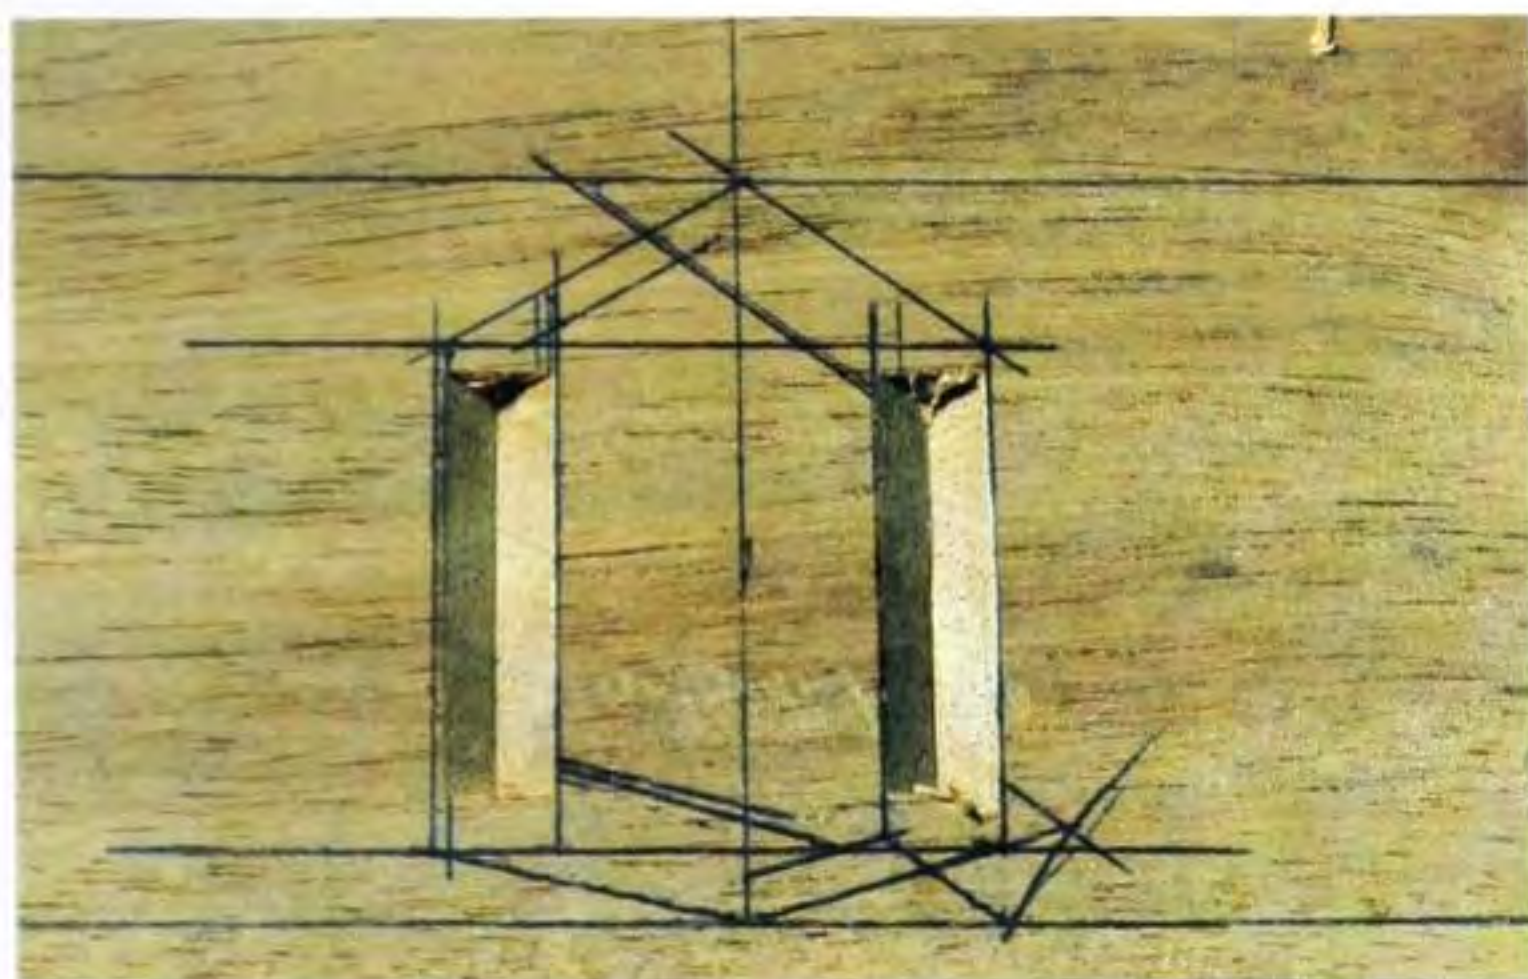

Fig 10.35 The upright trenches have been removed. Remember to select a chisel that will avoid biting into the angled walls in the junctions.
- 1 Refer to Figs 10.35 to 10.40. Draw out the letter, and incise the uprights first.